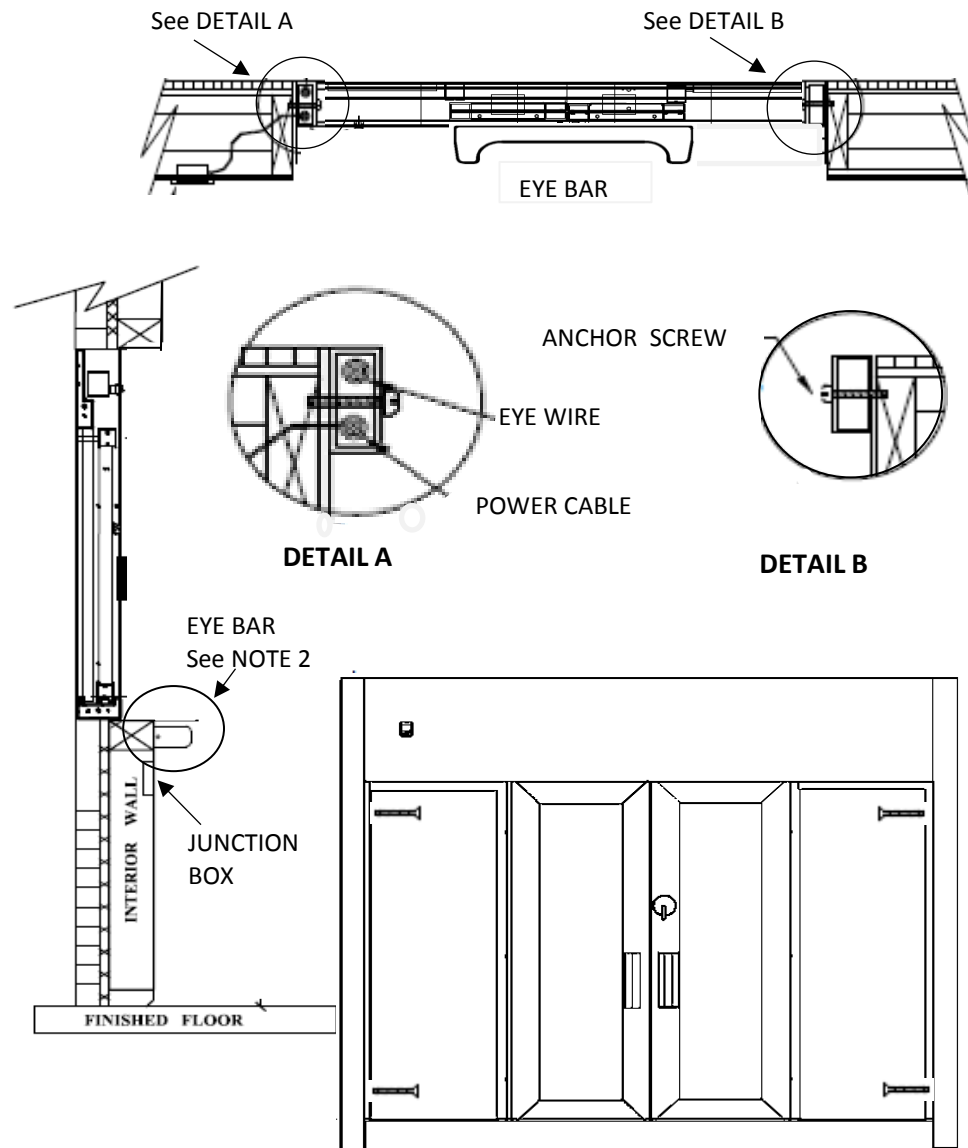

FIGURE 1
- 2) Anchor through each side jamb at two places approx. 5" at top and bottom of each jamb.(See Fig. 1)